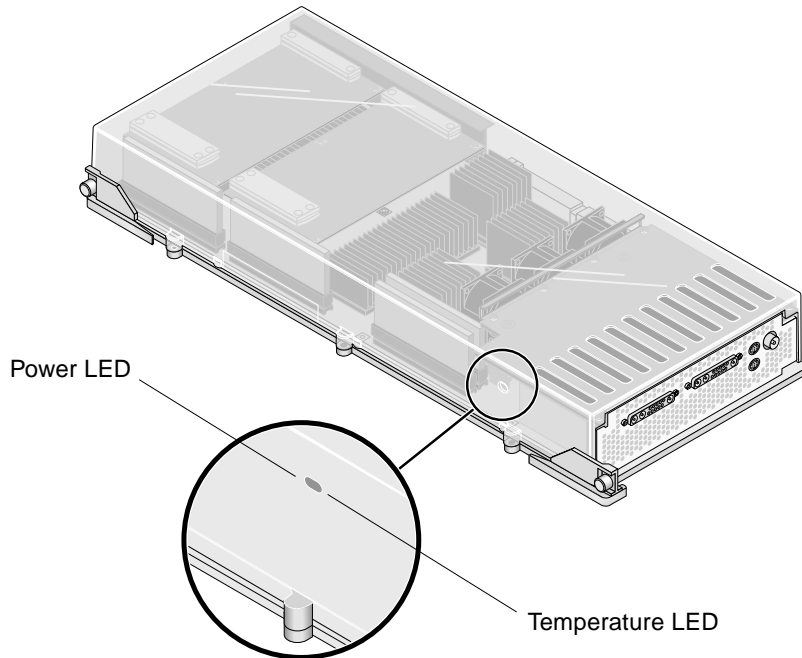

FIGURE 4-7 Sun XVR-4000 Graphics Accelerator Power and Temperature LEDs
19. After the Sun XVR-4000 graphics accelerator has been installed and power is applied to the system, look at the green LEDs on the Sun XVR-4000 graphics accelerator and the appropriate centerplane CPU slot indicator (FIGURE 4-7).
The Sun XVR-4000 graphics accelerator has two LED indicators: the left LED is a green power indicator, the right LED is an amber temperature indicator (FIGURE 4-7). When the amber LED is lit, it indicates an over-temperature-induced power-down of the Sun XVR-4000 graphics accelerator module. Normally, the Sun Fire V880z server software should take corrective action to power-down the slot in over-temperature situations before the emergency back-up power-down indicated by the amber LED. Thus, it should be quite rare to see the amber LED lit.